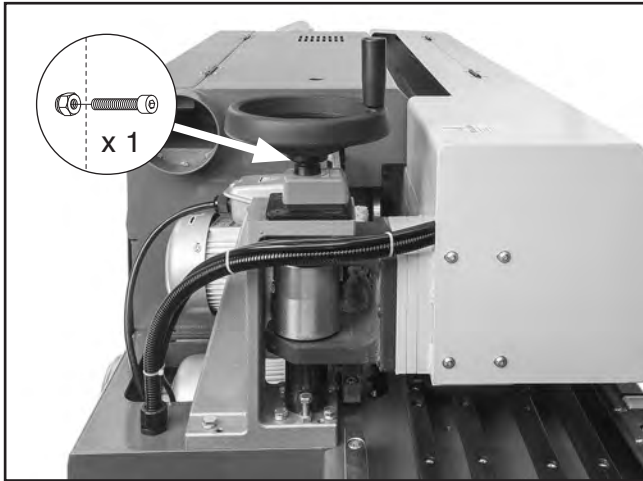

Figure 22. Panel feeder elevation handwheel installed.
4. Install handwheel on panel feeder elevation shaft (see **Figure 22**), and secure with fasteners removed in previous step.